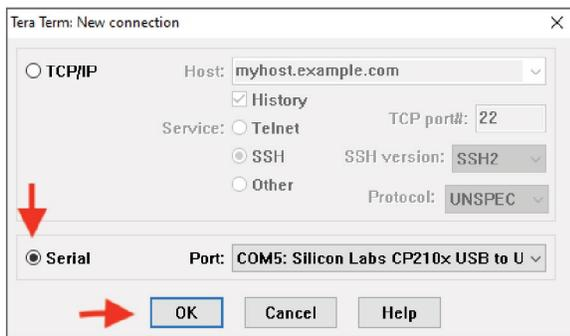

Figure 27. New connection
3. Open Tera Term (Figure 27).